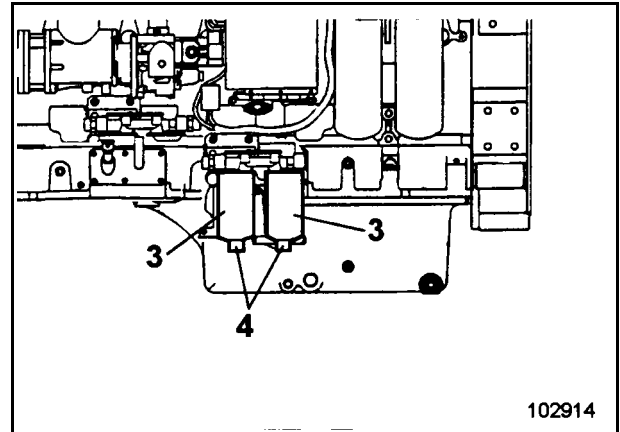

Fig. 3-35:
- Unscrew filters (3, Fig. 3-35:).